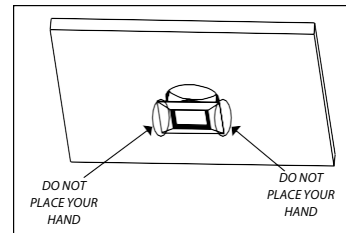

Figure 8
- DO NOT PLACE YOUR HAND UNDERNEATH SPRING CLIP DURING REMOVAL PROCESS. SNAPPING OF THE CLIPS CAN CAUSE INJURIES TO THE HAND.** (Figure 8)